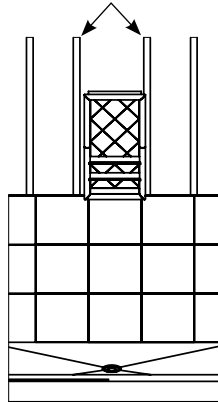

figure 14
2. Select your desired location for the shampoo shelf by looking at the panels in section (10).
4. Check that the studs are in the proper location and will not interfere with the shampoo shelf (fig. 14). These studs should have a minimum gap of 14 1/2".